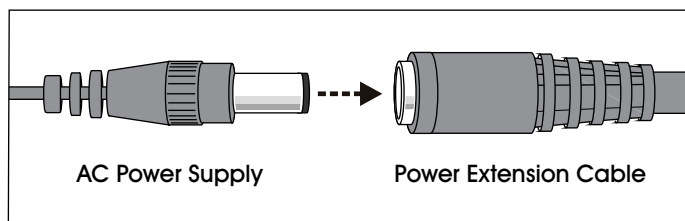

Figure 10
3. Attach 10 ft. power extension cable if necessary. (See Figure 10)